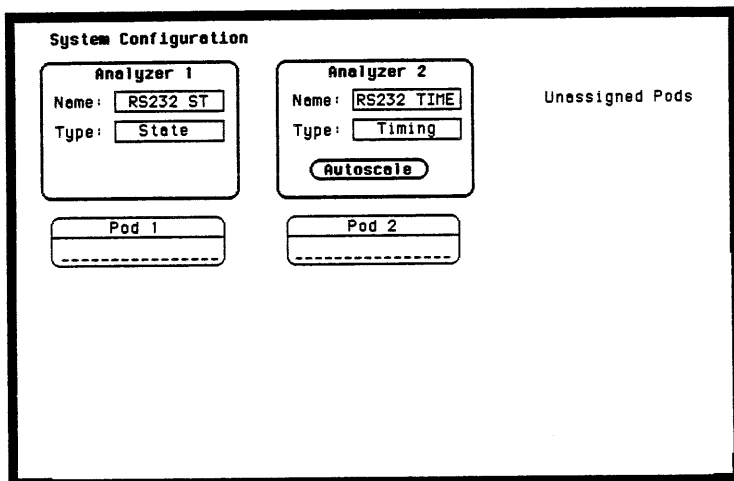

Figure 5-7. Configuration Menu for Timing Analysis with the HP 1651A
2. Assign pod 2 to Analyzer 2. You should see the display as shown in figure 5-7.